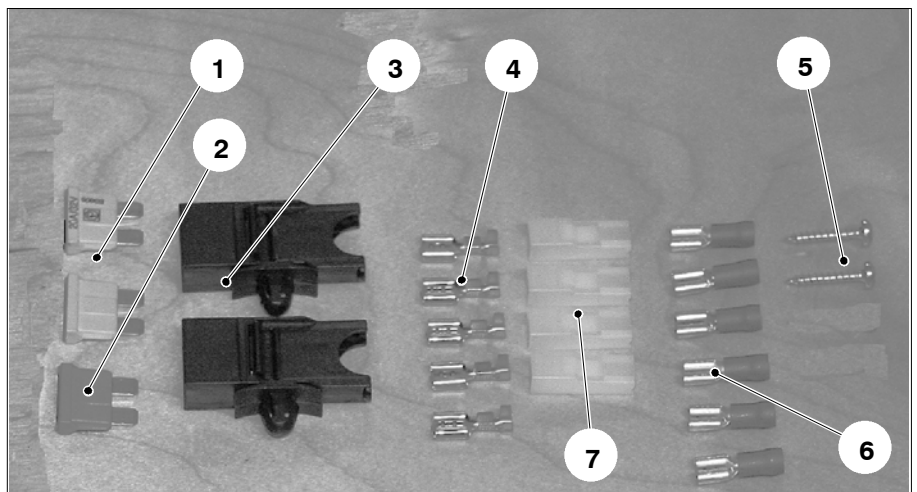
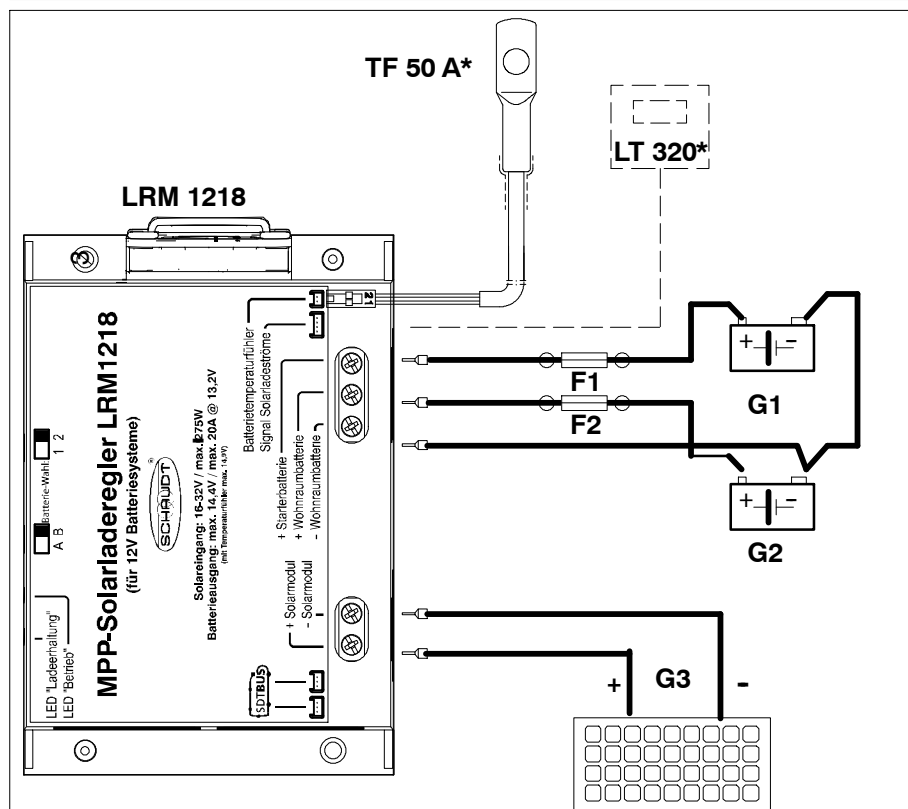

Fig. 1 Small parts and accessories delivered with the LRM 1218 solar charge regulator
Fig. 4 Circuit diagram for LRM 1218 to starter battery and leisure area battery connectors
- Fitting** ► On a stable and even surface, attach the solar charge regulator to the drillholes with two screws (Fig. 1, Pos. 5).
- ▶ 1. Connect the two fuse holders with fuses to the connection cable in accordance with the circuit diagram in Fig. 4. Use the flat push-on contacts (6.3 x 0.8) without sleeve for this (Fig. 1, Pos. 5). After crimping, attach the insulating sleeves (Fig. 1, Pos. 7). Insert the two fuses.